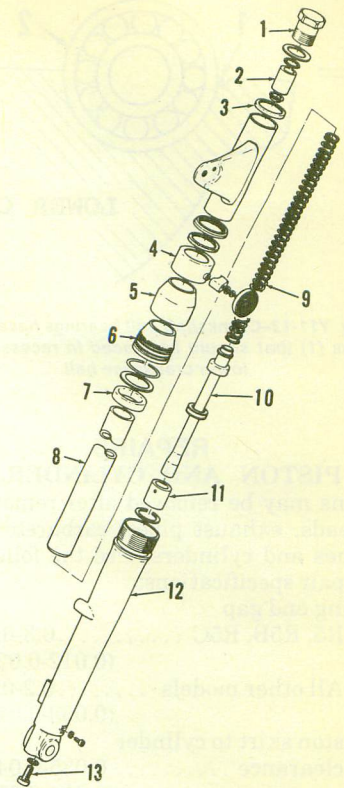
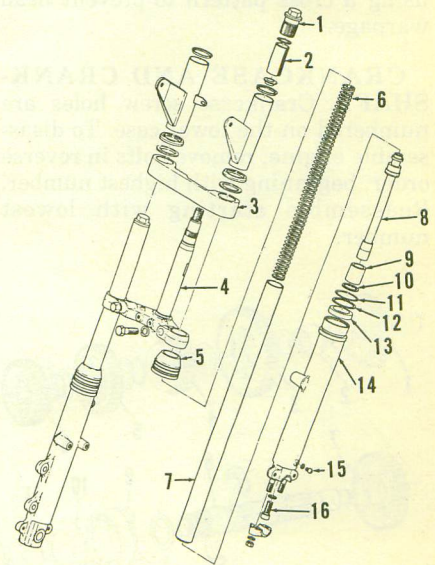

Fig. Y11-10—Exploded view of model DS7, R5, R5B and R5C front suspension unit.
Fig. Y11-11—Exploded view of front suspension used on models RD350 and RD350A. Models RD250 and RD250A are similar.
**SUSPENSION.** Refer to Fig. Y11-10 or Fig. Y11-11 for an exploded view of front suspension. Oil capacity for each fork leg is 145cc for models DS7, R5, R5B and R5C, and 140cc for all